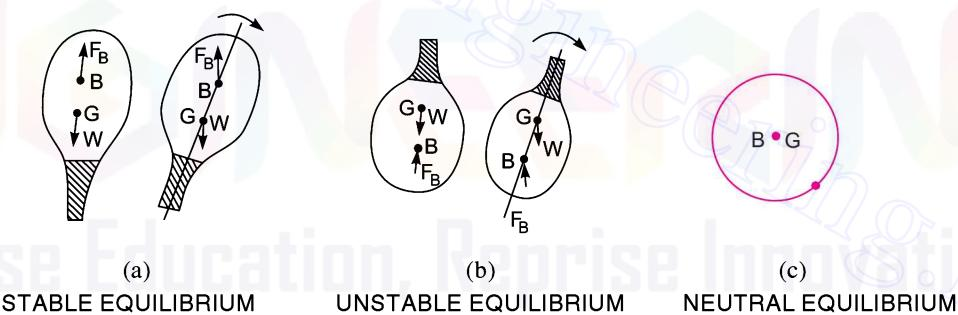

Fig. 4.12 Stabilities of sub-merged bodies.
**4.7.1 Stability of a Sub-merged Body.** The position of centre of gravity and centre of buoyancy in case of a completely sub-merged body are fixed. Consider a balloon, which is completely submerged in air. Let the lower portion of the balloon contains heavier material, so that its centre of gravity is lower than its centre of buoyancy as shown in Fig. 4.12 (a). Let the weight of the balloon is  $W$ . The weight  $W$  is acting through  $G$ , vertically in the downward direction, while the buoyant force  $F_B$  is acting vertically up, through  $B$ . For the equilibrium of the balloon  $W = F_B$ . If the balloon is given an angular displacement in the clockwise direction as shown in Fig. 4.12 (a), then  $W$  and  $F_B$  constitute a couple acting in the anti-clockwise direction and brings the balloon in the original position. Thus the balloon in the position, shown by Fig. 4.12 (a) is in stable equilibrium.
(b) **Unstable Equilibrium.** If  $W = F_B$ , but the centre of buoyancy ( $B$ ) is below centre of gravity ( $G$ ), the body is in unstable equilibrium as shown in Fig. 4.12 (b). A slight displacement to the body, in the clockwise direction, gives the couple due to  $W$  and  $F_B$  also in the clockwise direction. Thus the body does not return to its original position and hence the body is in unstable equilibrium.
(c) **Neutral Equilibrium.** If  $F_B = W$  and  $B$  and  $G$  are at the same point, as shown in Fig. 4.12 (c), the body is said to be in neutral equilibrium.